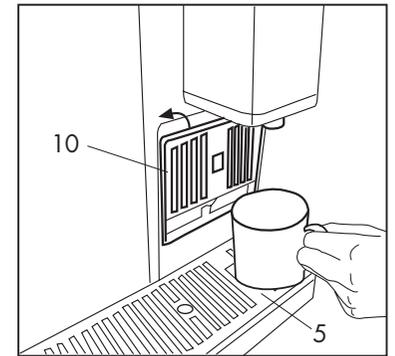

Fig.5
- Close the small cup support (10) and place a large cup on the grid (5) **(Fig. 5)**